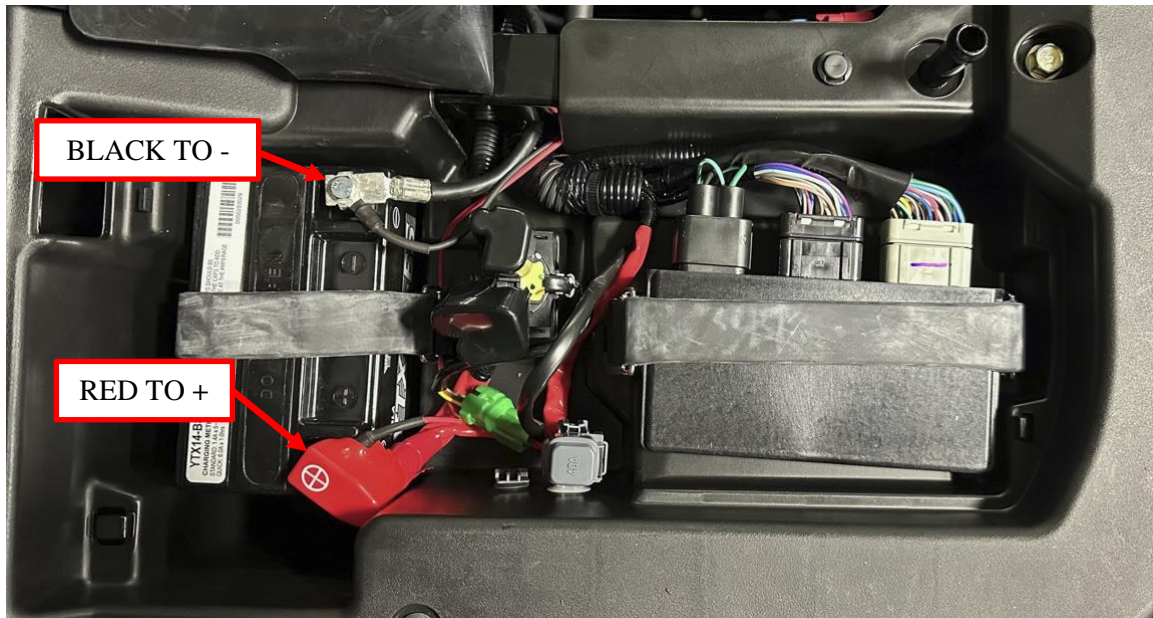

Figure 20: Battery harness cable connections.
19. Connect the battery harness cables to the battery. Remove the battery bolts from each terminal as you connect the cables, and replace the bolts with the provided M6 x 14 mm bolts to clamp the cables on top of the existing cables. Connect the red harness wire to the terminal with the existing red battery cable (+ 12V). Connect the black harness wire to the terminal with the existing black battery cable (- 12V). See Figure 20.